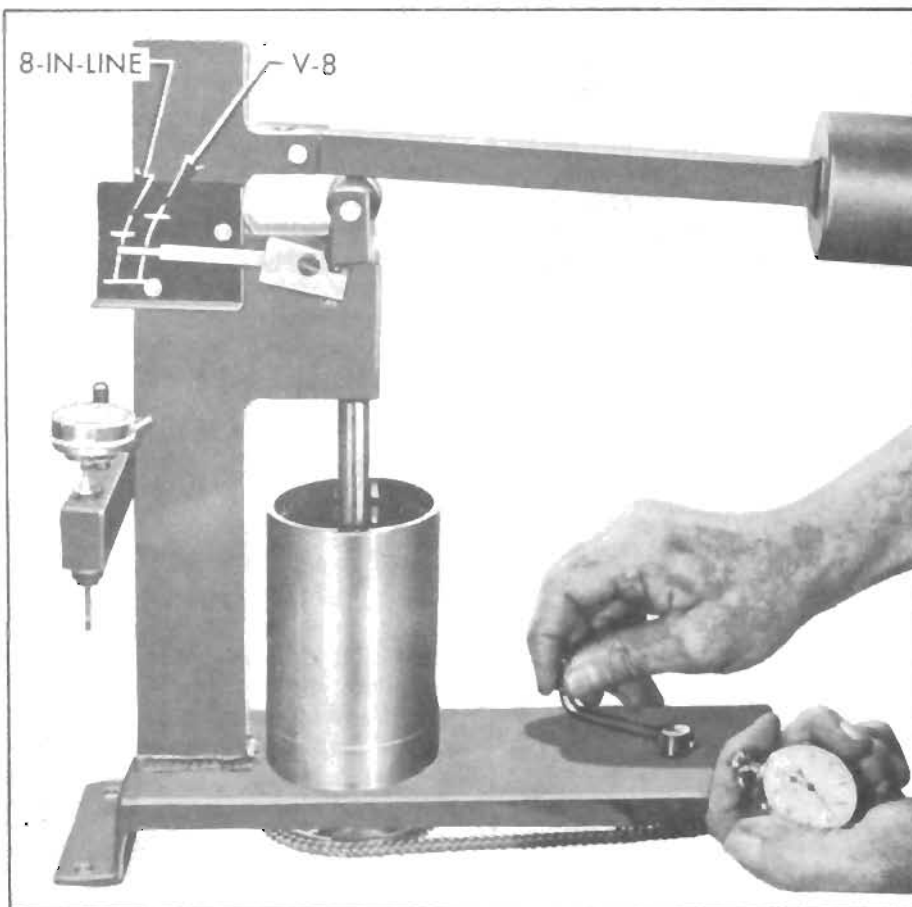

Figure 2-26—Checking Lifter Leakdown Rate
6. Raise weight arm to allow the lifter plunger to come up to its retainer, then lower the arm to rest on the ram roller. As the pointer starts moving upward start rotating the fluid cup by turning the handle one revolution every two seconds. See Figure 2-26.
7. Use a stop watch to check the time required for pointer to move from the lower to the upper mark on scale where marked "BUICK V-8." The cup must be rotated during this test. See Figure 2-26.